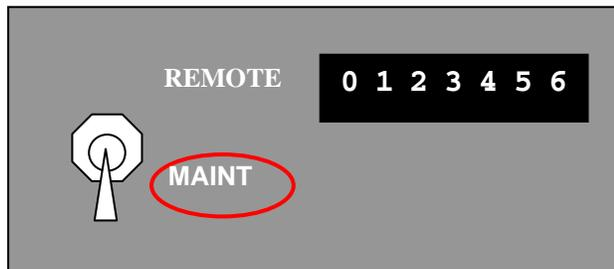

Figure 5-27
2. Set the Remote/Maintenance switch (Figure 5-27) to Maintenance.